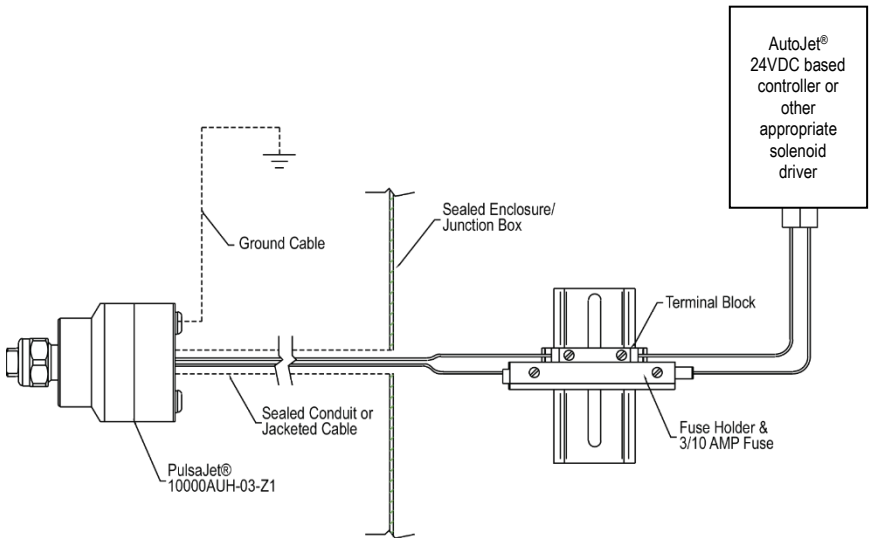

FIGURE 1 – ELECTRICAL SCHEMATICS FOR AA10000AUH-03-Z1-EPFC
Electrical conduit connection for conduit fitting accepts 1/2" NPT (M) for NPT version. The conduit must protect the electrical cable from mechanical damage and terminate in a sealed enclosure or junction box appropriate for the hazardous location. For BSPT version, an Ex d rated cable gland is used with cable. The fuse holder and a 3/10-amp fuse should be used as shown in Figure 1. The ground connection of the Pulsajet® 10000AUH-03-Z1-EPFC must be attached to a true ground.